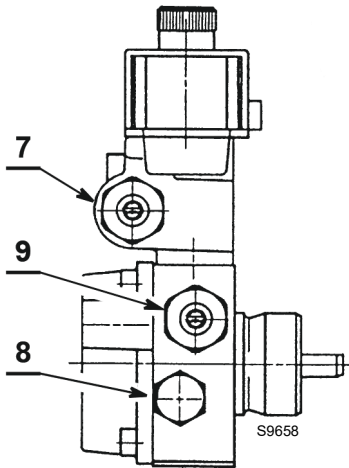

Fig. 19
- If necessary, recalibrate the pressure using the screw 7) Fig. 19.
- The pressure gauge for checking pressure should be fitted in place of the plug 8) Fig. 19.
- If necessary recalibrate the pressure, or if you prefer change it, just turn the screw 9) Fig. 19.
- The pressure gauge for checking pressure should be assembled in place of the plug 8) Fig. 19.